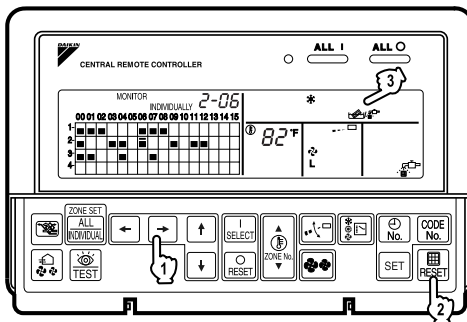

Fig. 16
**■ Display of time to clean (Fig. 16)**